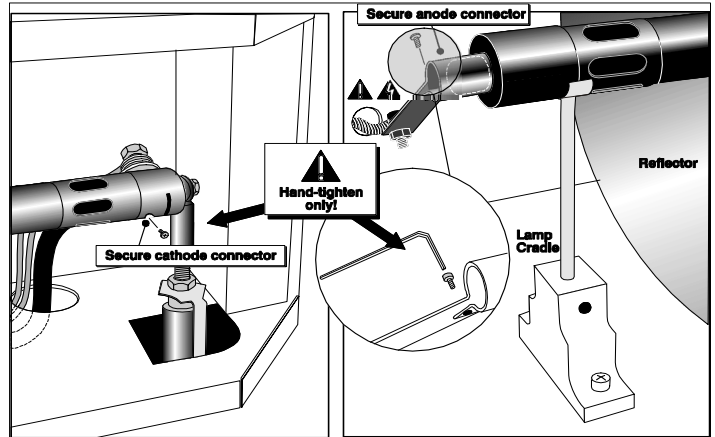

Figure 4-2 Secure Bulb at Cathode (-) and Anode (+) Connectors
- Loosen set screws from negative/cathode (rear, 7/64") and positive/anode (front, 3/16") lamp connectors. These screws are shown in **Figure 4-2**. **NOTE:** *Be sure to apply minimal torque and DO NOT STRESS the quartz tube.*
- c. Hand-tighten set screws in both negative and positive lamp connectors (**Figure 4-2**). **Important!** *Proper electrical contact prevents resistance in the lamp connectors. If you accidentally touch the quartz body of the lamp with your bare hands, clean it as described in Section 4.1 Maintenance and Cleaning.*